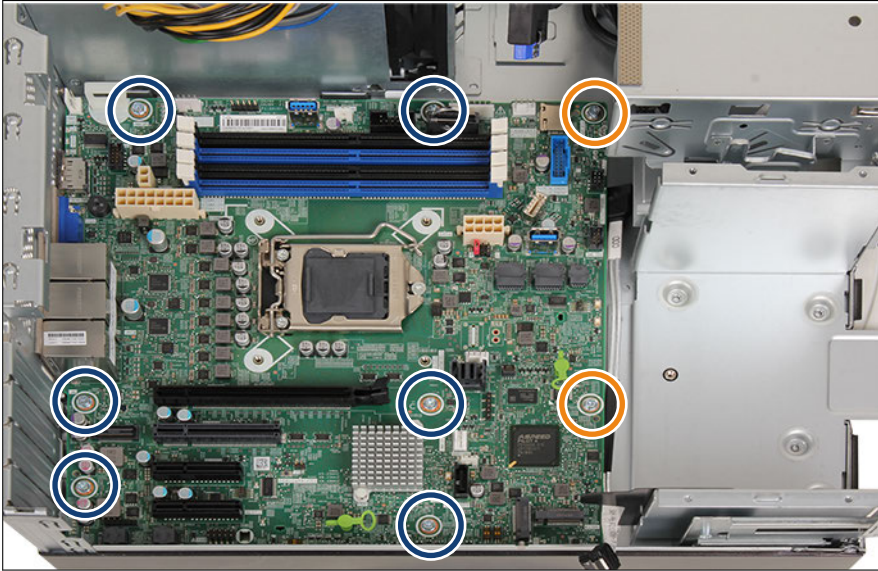

Figure 234: Screws system board
- ▶ Adjust the system board. If necessary adjust the position of the system board with a gentle twisting motion (orange circles in Figure 234 show the centering bolts).
- ▶ Fasten the system board with the eight screws, see Figure 234.